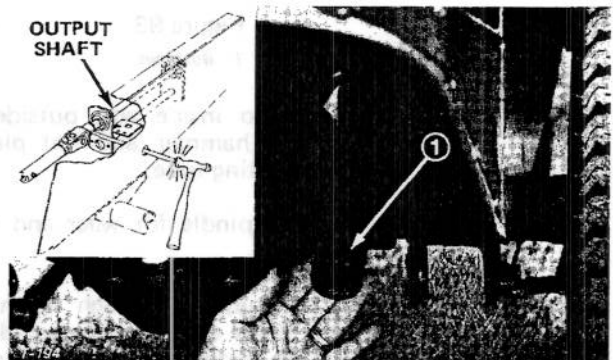

Figure 92
2. Remove five wheel nuts and slide left wheel off axle to expose access hole in side of chassis (Fig. 92).
3. Push PTO lever forward until pulley and brake disengage. Align hole in PTO shaft with hole in chassis (Fig. 92).
4. Through access hole in chassis, drive roll pin out of PTO shaft and output shaft with pin punch and ball peen hammer (Fig. 92). Remove PTO shaft.